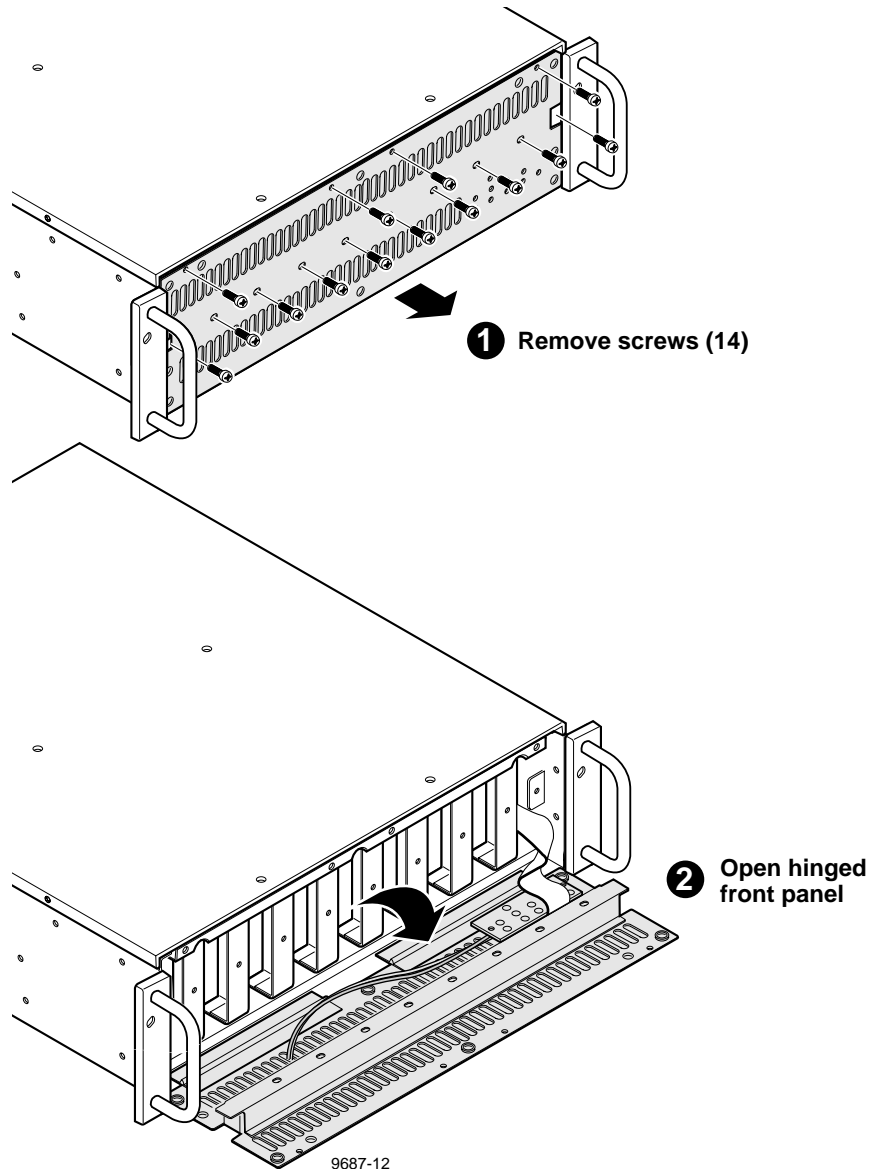
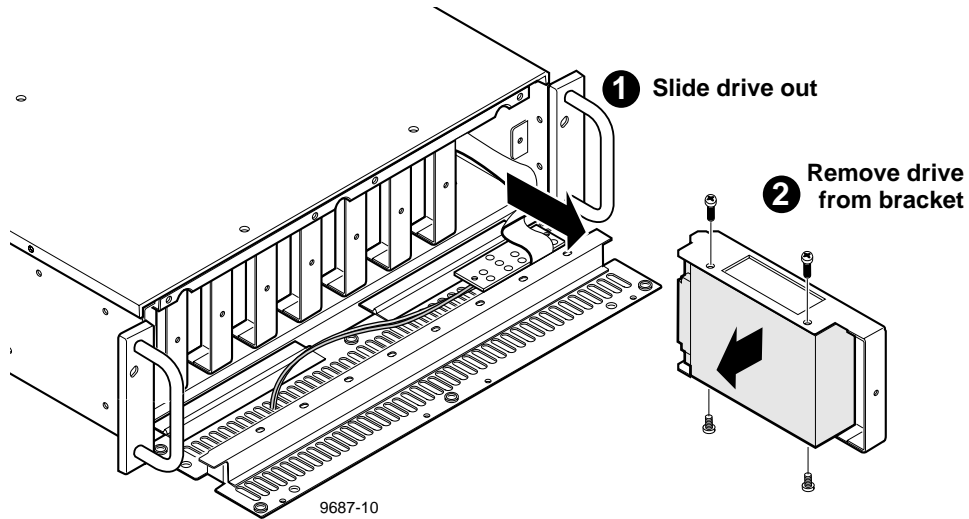

Figure 3-4. Lowering the Front Panel
Figure 3-5. PDX218 Disk Drive Caddy and Disk Drive Removal
A disk drive caddy holds each disk drive in place (items 4 and 5 in Table 3-1). If in troubleshooting the PDX218, a disk drive is determined to be bad, the hinged front panel must be loosened and lowered, and the appropriate caddy must be removed before the disk drive can be removed and replaced. It is not necessary to remove the PDX218 from the rack to perform this procedure. See Figure 3-4 to lower the front panel and Figure 3-5 to remove the caddy and disk drive.
2. Remove the retaining screws from the front panel. (Figure 3-4) (These are also caddy retaining screws.)
4. Grasp the appropriate caddy, pull straight out of the chassis, and place on a level, static-proof surface (Figure 3-5).
1. Mount the new drive in the caddy using the screws previously removed from the caddy (Figure 3-5).
3. Raise the front panel and secure it with the screws previously removed (Figure 3-4).
2. Remove the retaining screws from the front panel. (Figure 3-4) (These are also caddie retaining screws.)
3. Raise the front panel and secure with the screws previously removed (Figure 3-4).
4. Raise the front panel and secure with the screws previously removed (Figure 3-4).
2. Remove the retaining screws from the front panel (Figure 3-4). (These are also caddie retaining screws.)
4. Remove the front panel retaining screws and lower the front panel (Figure 3-4).
5. Remove all disk drive caddies (Figure 3-5).
3. Install all disk drive caddies (Figure 3-5) previously removed.